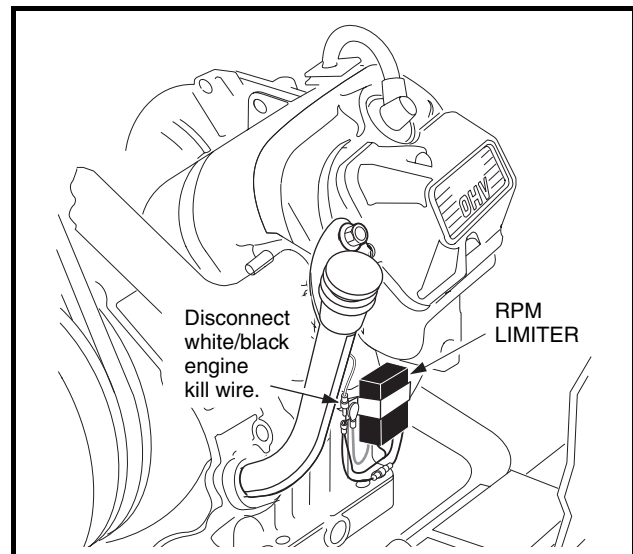

Figure 11-40 Disconnect White/Black Engine Kill Wire
2. Disconnect the engine-kill white/black wire at the bullet connector located next to the RPM limiter (**Figure 11-40, Page 11-33**).
- Disconnect white/black wire bullet connector located at the engine RPM limiter (**Figure 11-40, Page 11-33**).